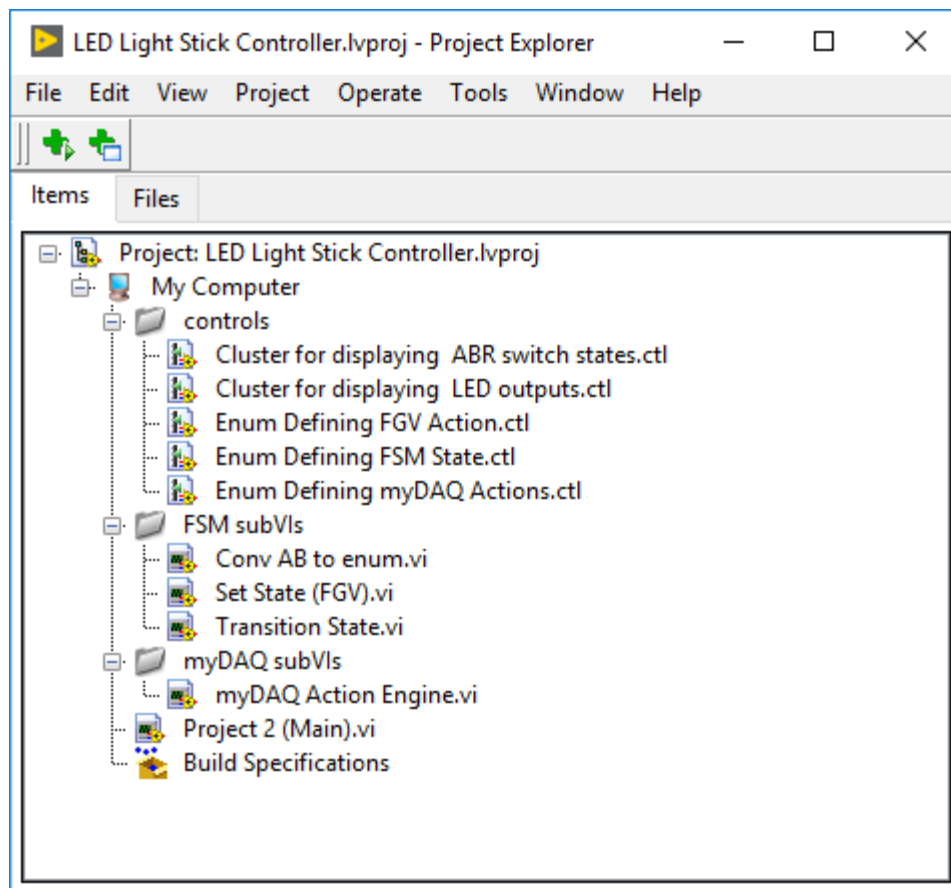

Figure 1: Required project view.
2. You must organize your files using a LabVIEW project. The project assignment includes a directory containing the partially completed project, control files, and VIs. Complete the code to obtain the project view in Figure 1.
2. (10 points) The LabVIEW project must appear as shown in Figure 1.